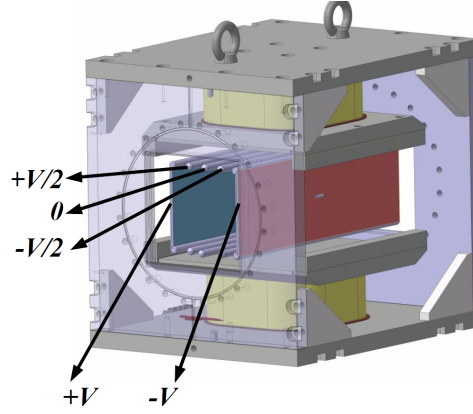

Figure 5.1: A schematic of the SR showing the magnet and electrostatic plates and rods. $\pm V$ is the potential applied on the plates.
Without rotation, the initial spin of the beam as it approaches the sample, is perpendicular to its momentum due to a 90° bend in the beam line between the moderator and the sample position. For LF μ SR measurements using the available magnets and spectrometer, one needs a spin rotator (SR) after the moderator. However, space limitations impose a small footprint of $\sim 40 \times 40 \times 40$ cm³ on the SR. Taking these limitations into consideration we designed a SR which is composed of a dipole magnet, producing a vertical magnetic field, and a set of conducting plates to produce a corresponding transverse horizontal electric field (see Fig. 5.1). The main considerations in the magnet design were its physical length, uniformity/homogeneity and sufficient magnetic field amplitude (using a reasonable current) to achieve a full 90° spin rotation at typical muon energies (< 20 keV). For the electrostatic plates, we aimed at providing an electric field that compensates the deflection of the beam due to the magnetic field while maximizing beam transmission through the SR.